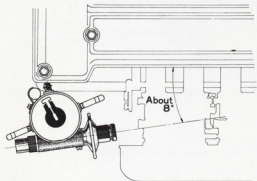

Fig. 7-50 Distributor Installation G0345
d. Position the distributor rotor as illustrated in figure 7-50. Next, install the distributor into the driven gear sleeve.